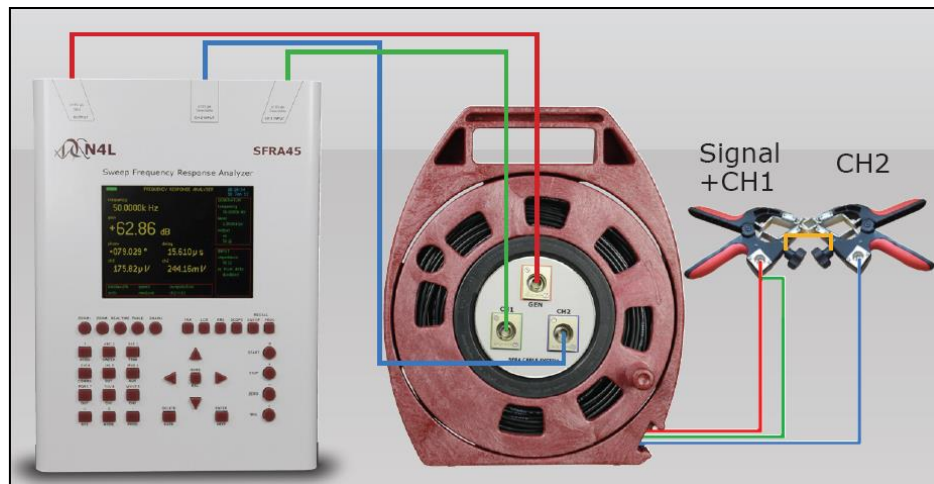

Fig.1
- **Zero dB check:** Before any measurements are taken, the engineer is advised to perform a “Zero dB check” of the instrument and connection leads/clamps. The connection leads should be connected as per fig.1 below;